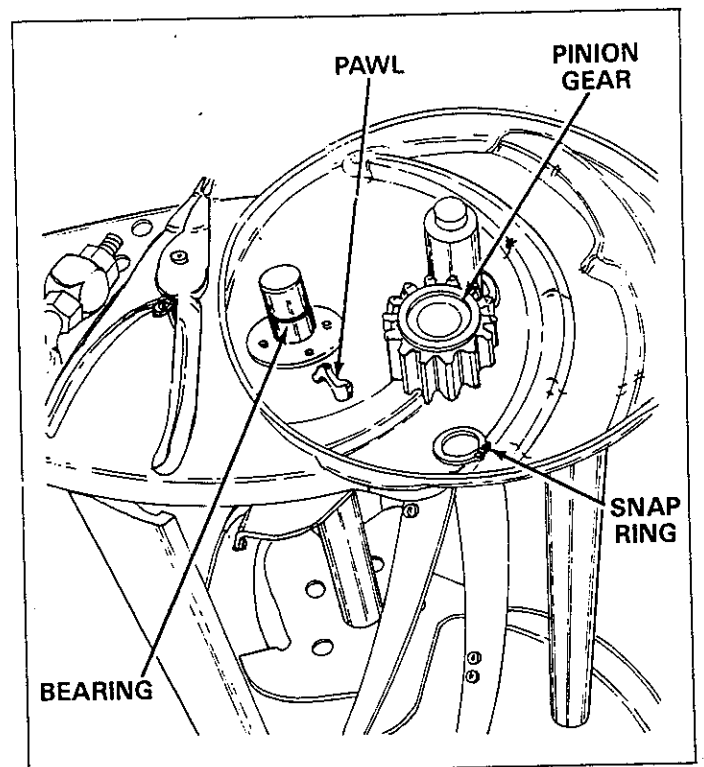

FIGURE 11
- F. Take off the snap ring with a pair of snap ring pliers and remove the pinion gear. See figure 11.